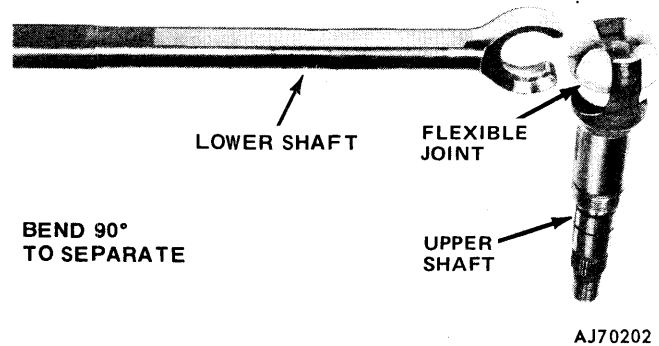
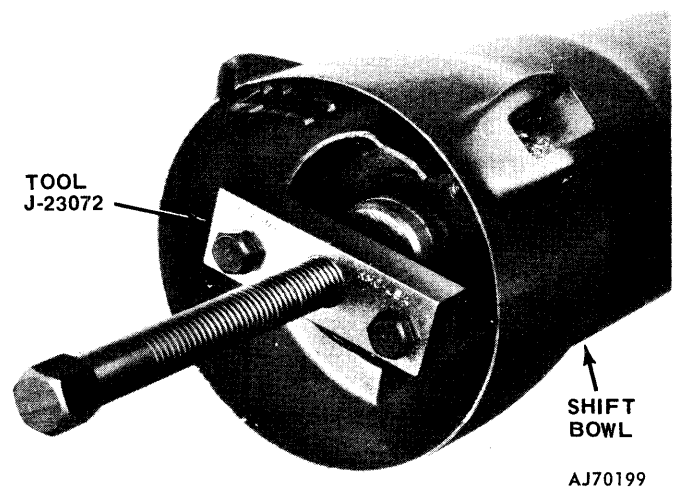

Fig. 11-37 Steering Shaft Assembly
Fig. 11-38 Removing Shift Tube
(36) Disconnect steering shaft at intermediate shaft coupling. Remove steering shaft through upper end of column.
(37) Disassemble steering shaft by folding shaft at 90° and separating upper and lower halves of shaft at flexible joint (fig. 11-37).
(38) Remove ignition switch.
- (39) Remove neutral safety and backup lamp switch.
- (40) Remove lock rack and remote rod.
- (41) Remove lower bearing retainer snap ring and remove retainer, bearing, and adapter.
- (42) Remove screws attaching support to shift bowl and remove support.
- (43) Remove shift gate pin and remove shift gate from support.
- (44) Remove shift tube retaining ring and thrust washer.
- (45) Remove shift tube from column jacket using Shift Tube Remover Tool J-23072 (fig. 11-38).